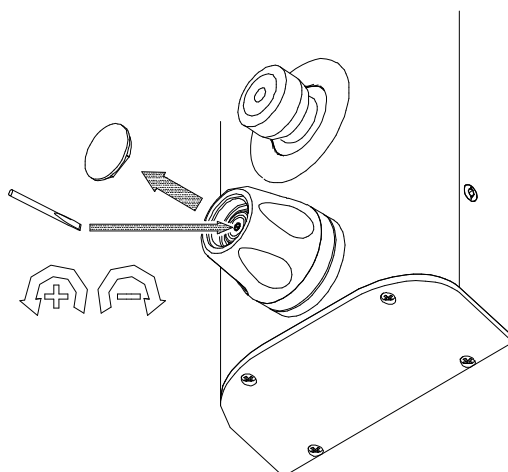

Fig 8
- b) Adjust the temperature using the small slotted screw in the centre of the spindle (see Fig 8).